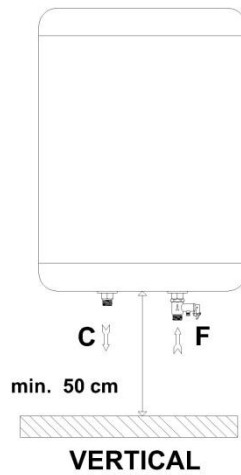

fig 2.- Models APARICI SC
Due to its particular design, the APARICI electrical terms in this series are intended to be installed vertically as shown in Fig. 2 with the cold water inlet (F) on the right and the hot water outlet (C) on the left.